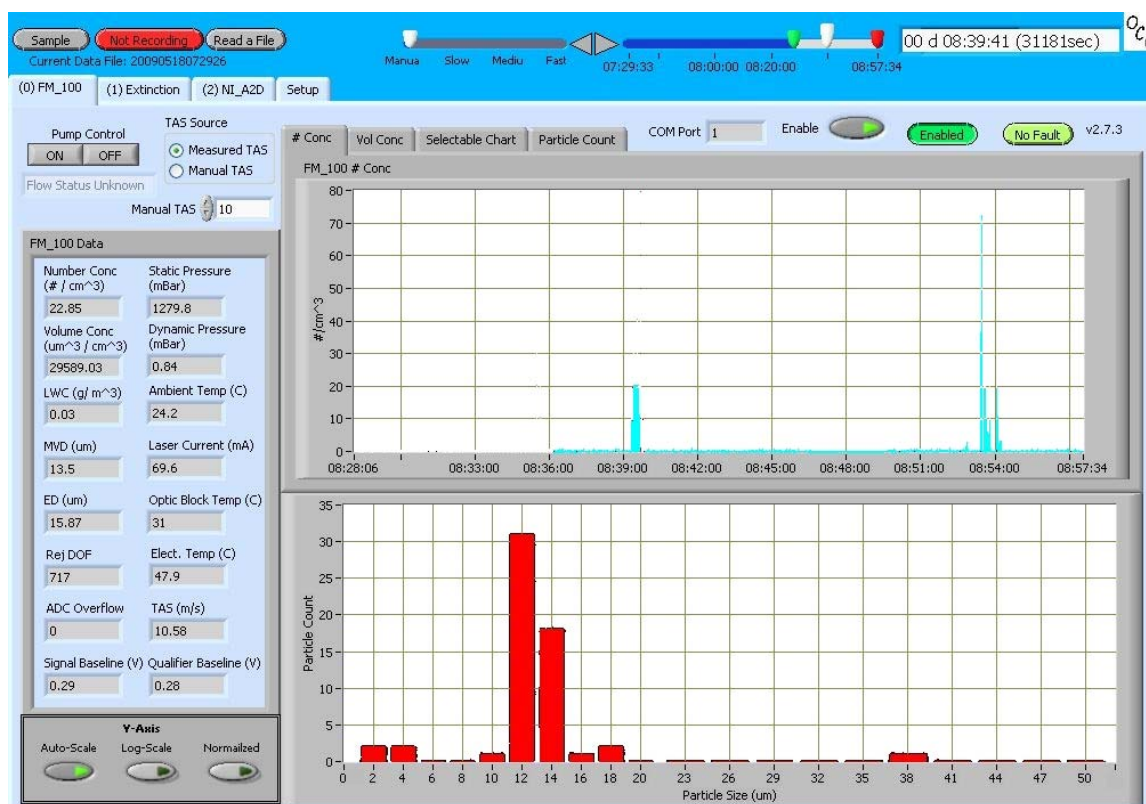

Figure 6: Display of Calibration Test Results. Note the definite peak in the 12-14  $\mu\text{m}$  particle range.
Calibration of the CDP is typically verified with precision glass beads. Glass beads of a known size are injected into the sample area, and the instrument sizes them. The resulting particle-size histogram should show a definite peak at a size slightly smaller than the size of the glass beads. DMT instruments are calibrated to measure water particles, and water and glass have different refractive indexes. As a result, the particle sizes measured by the instrument will be about 80% of the actual size of the glass beads. The conversion table in Appendix B provides corresponding water droplet sizes for given glass bead sizes. The water-droplet size indicates where the number of particles detected during calibration testing should peak. For instance, if 17- $\mu\text{m}$  glass beads are used for testing, the particles detected by the instrument should peak at about 14  $\mu\text{m}$ . See Figure 6.
- 8.) Connect the tube on the calibration fixture's far end to the dispenser, and connect the dispenser to the duster. (See Figure 14.) *Gently* press the duster so glass beads are released into the instrument. A very small amount of pressure on the trigger of the duster can will suffice. The calibration should be done in a short burst about 1 second or less. There will be a delay of 1-3 seconds before the data shows on the computer screen. (See Figure 6.) The total number of particle counts, not concentration, should be 30-200. This is summed across all of the bins.
Figure 6 shows the typical calibration response.3 Histogram results will look similar for the CDP. Note that the total number of particle counts is about 50 particles, which is an acceptable concentration. The nominal size of the glass beads is 17.3  $\mu\text{m}$ . In consulting Appendix B, the equivalent water size is 14.5  $\mu\text{m}$ . In Figure 6, there are two predominant peaks, one at 12  $\mu\text{m}$  and the other at 14  $\mu\text{m}$ . The designations are the upper boundaries of bins, so the major peak is 10-12  $\mu\text{m}$  and the other peak is 12-14  $\mu\text{m}$  sizing. While these peaks occur at particle sizes slightly smaller than one might expect, they are acceptable given the  $\pm 1.4 \mu\text{m}$  variation in glass bead size and a 12% coefficient of variation.